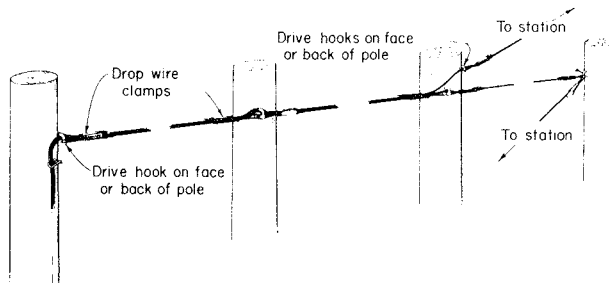

Fig. 7 — Drop Wire Run Along Lead Not Carrying Cable
3.08 Run drop wires as illustrated in Fig. 7.